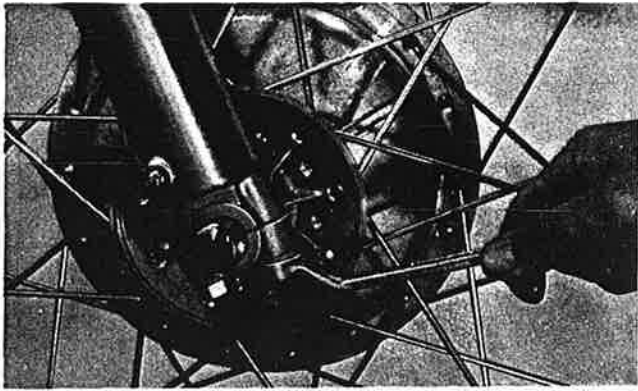

Fig. 5-1-6
6. Loosen the two axle holder nuts, at the bottom of the right-hand fork leg. (Fig. 5-1-6)